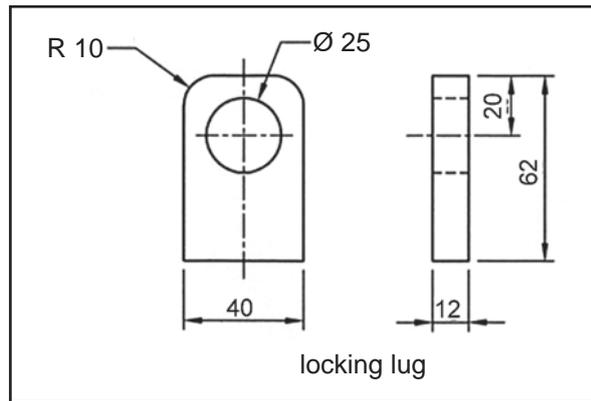

Figure 5
- f. A 64 mm long piece of material has been cut off from a 40 × 12 mild steel bar to make the locking lug shown in Figure 5.